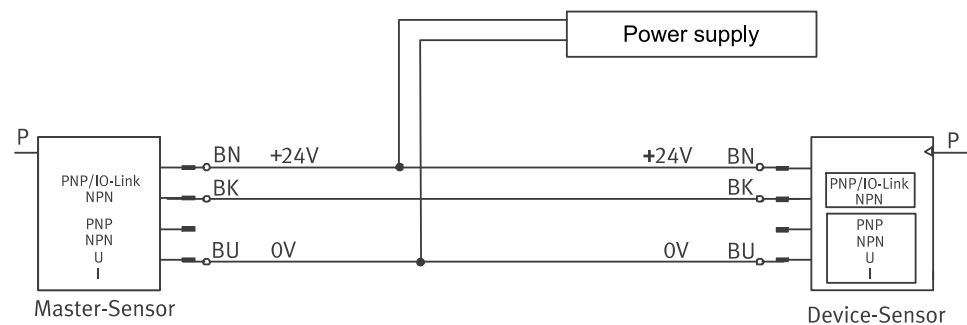

Fig. 10: Replicating parameters
- The master sensor is connected with the device sensor, ➔ Fig. 10.